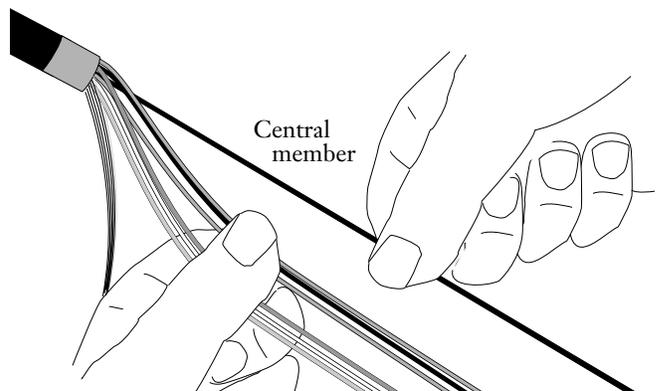

Figure 27
- a) Working from the end of the cable back to the tape mark, carefully unwind the buffer tubes from around the central member of the cable (Figure 27). Use the buffer tube switchback points to assist in unwinding. Be careful not to excessively bend or kink any of the buffer tubes.